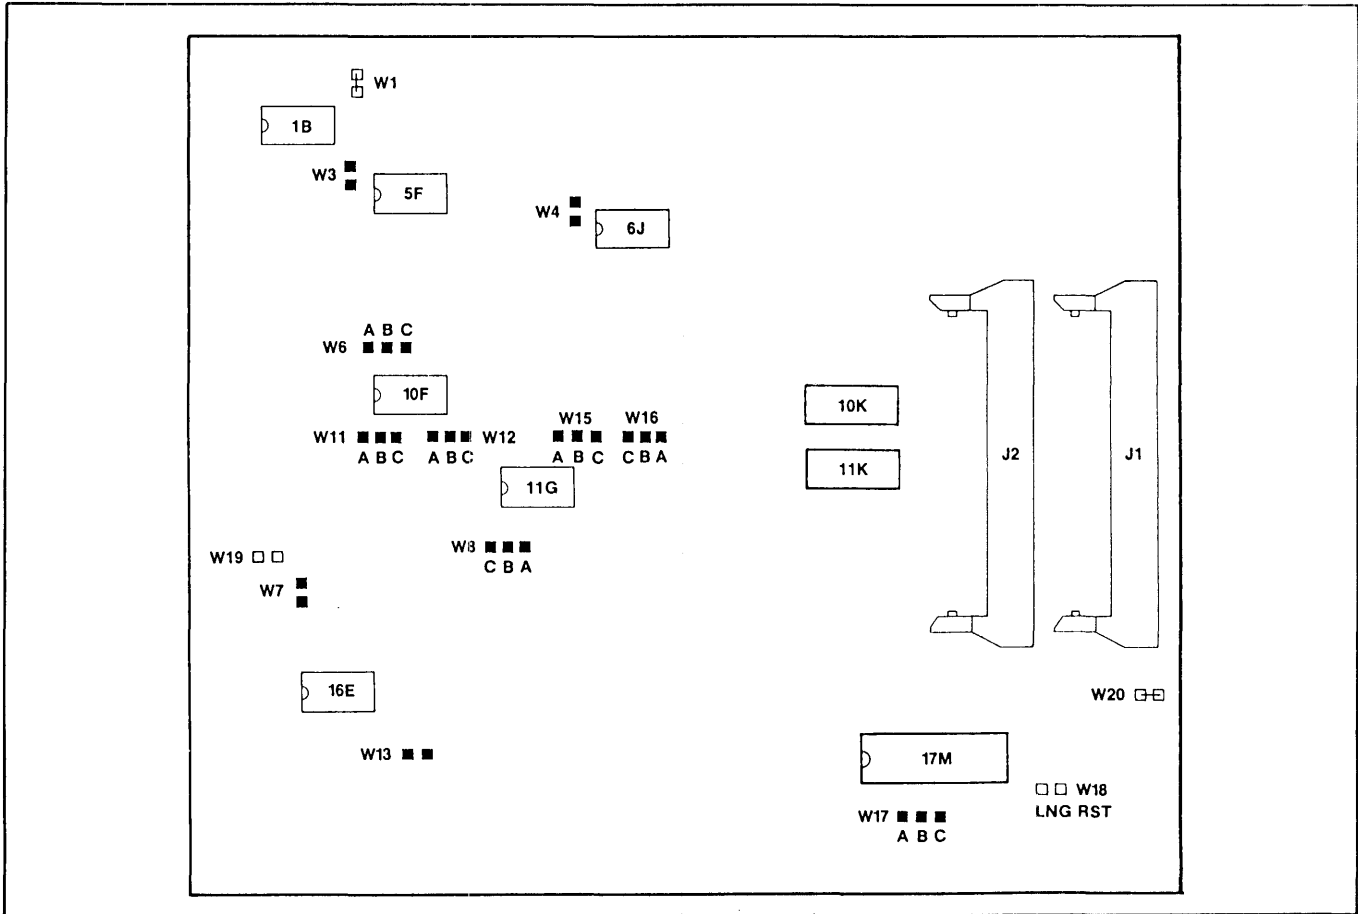

Figure 4-3. Jumper Locations for PCB Assembly 200248-01/02
3. USO = User Selected Option (See Figure 4-3).